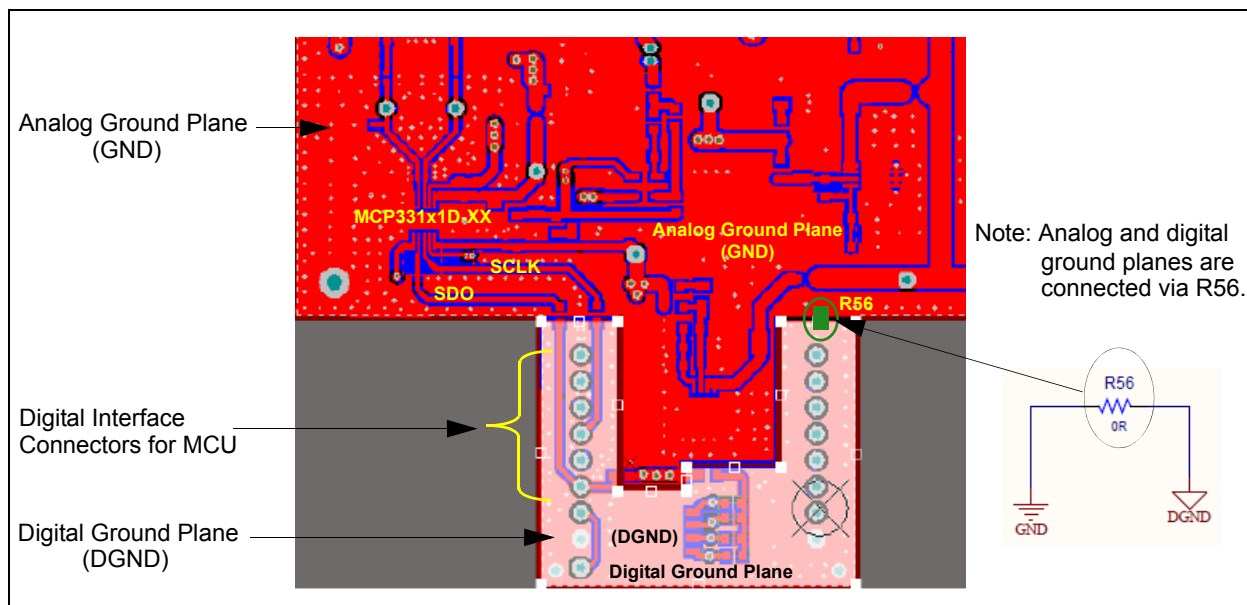
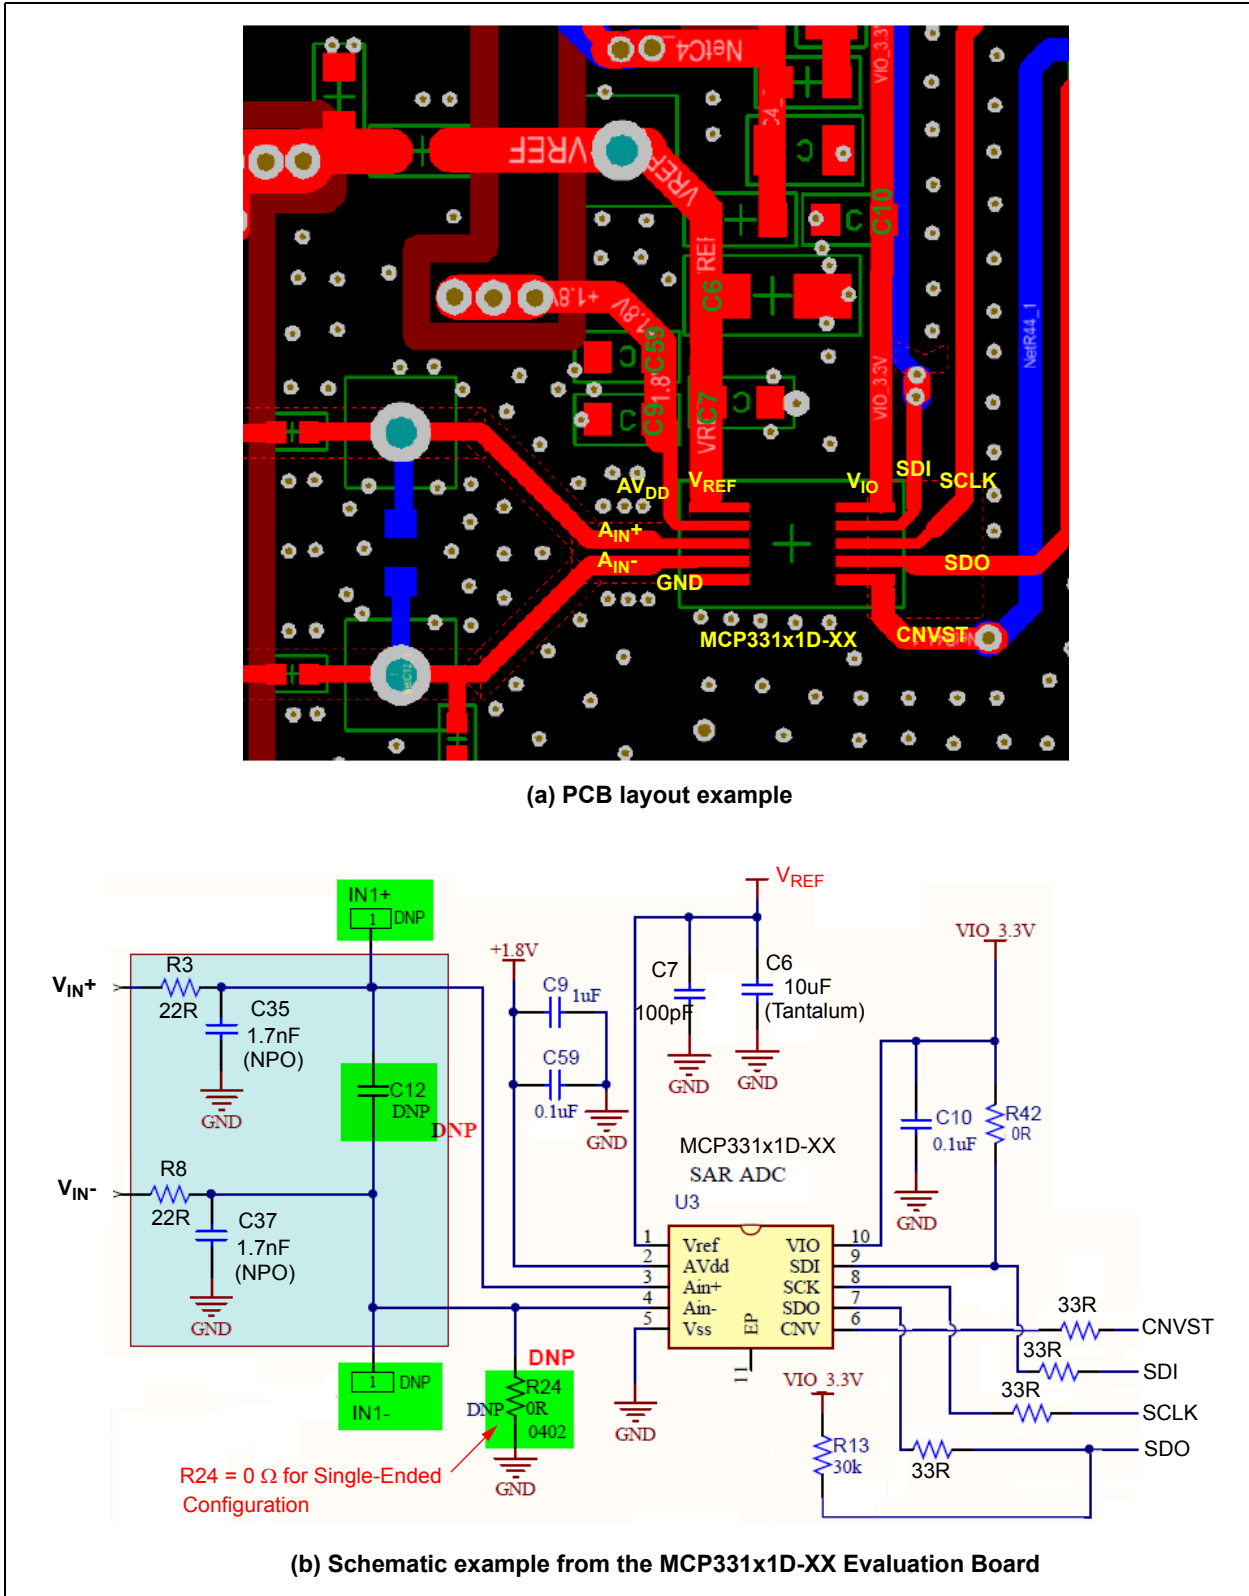

FIGURE 8-3: PCB Layout Example: Analog and Digital Ground Planes
FIGURE 8-4: PCB Layout Example: See more details in the MCP331x1D-XX EV Kit User's Guide.
- Connect the analog and digital ground planes at a single point (away from the sensitive analog sections) with a $0\ \Omega$ resistor or with a ferrite bead. See **Figure 8-3** as an example of separated ground planes.
Figure 8-3 and **Figure 8-4** show brief examples of the PCB layout. See more details of the schematics and PCB layout in the MCP331x1D-XX Evaluation Board User's Guide.